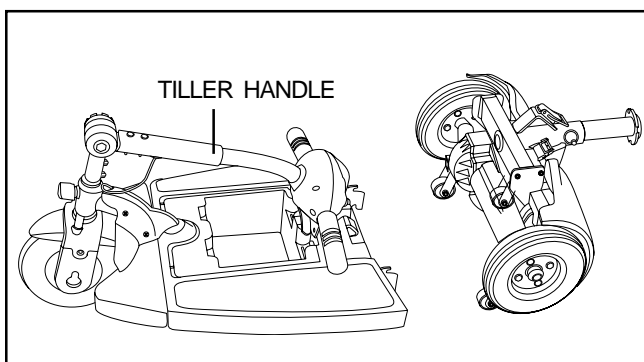

Figure 22. Frame Halves
3. Carefully lift the front section vertically away from the rear section. See figure 22.
1. Position the front and rear sections of your scooter as shown in figure 22.